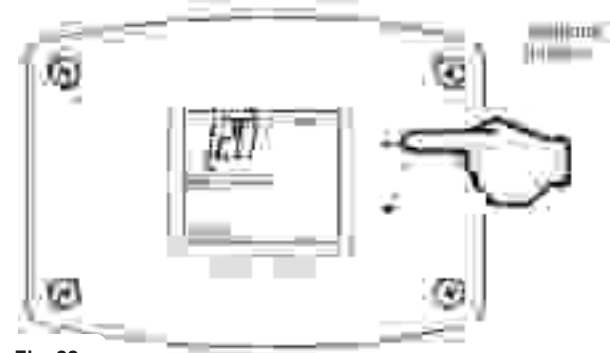

Fig. 22
2. 'Setpoint' indicator begins flashing in the display after pressing 'Temperature Up' button (Fig. 22).